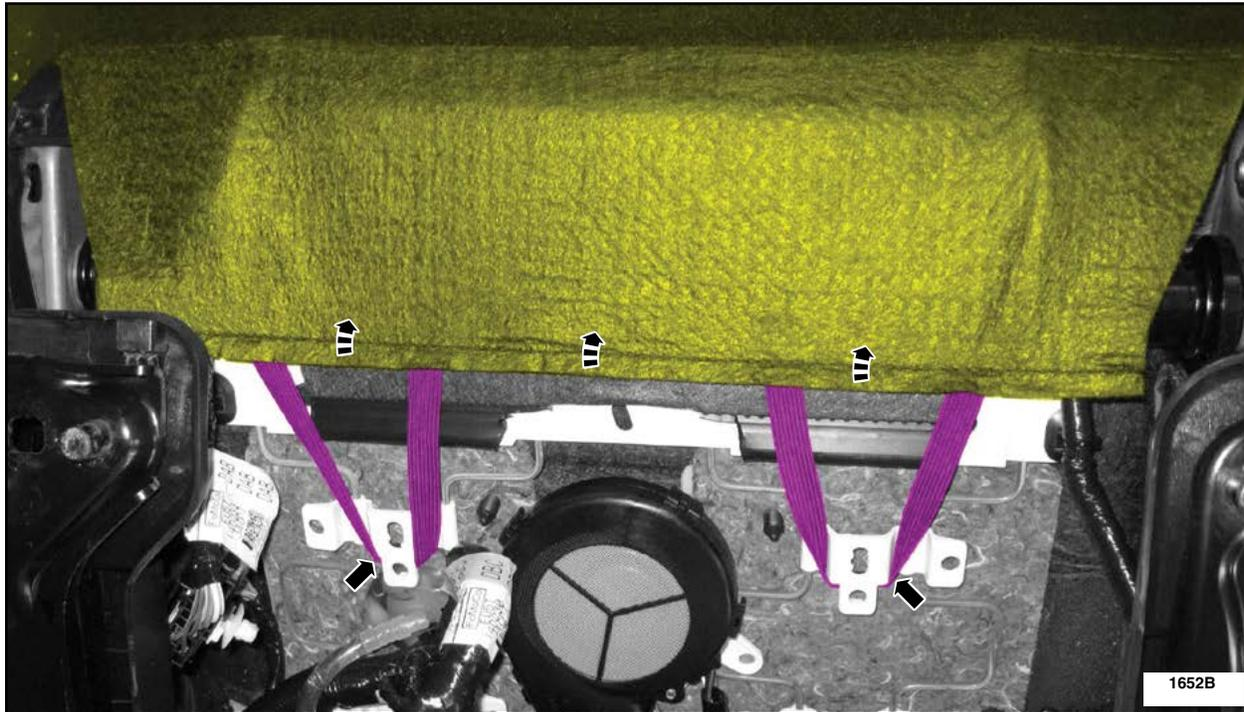

FIGURE 2
2. Detach the two backrest cover straps and position the backrest cover upward. See Figure 2.